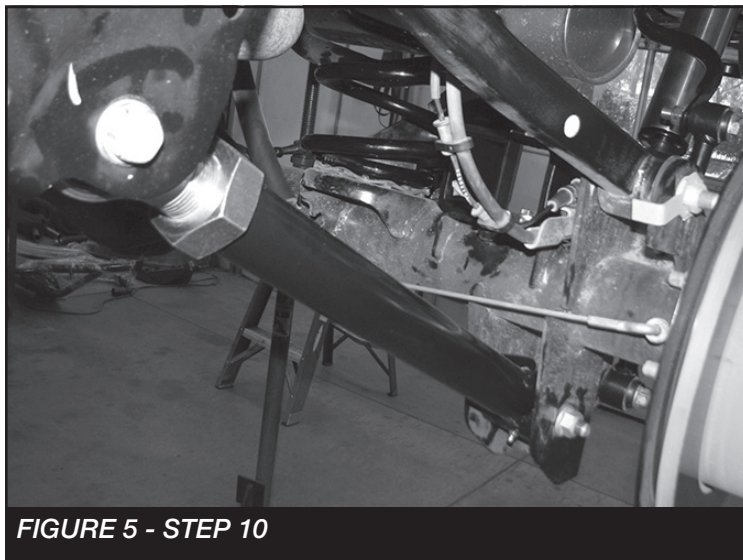

FIGURE 5 - STEP 10
10. Install the new Fabtech lower link using the supplied FT50594 (Misalignments) and factory hardware like shown below. The joint end will mount on the frame side. Torque to 160 ft-lbs. **SEE FIGURE 5** Refer to diagram at the end of instructions for FT50771 preset measurements.